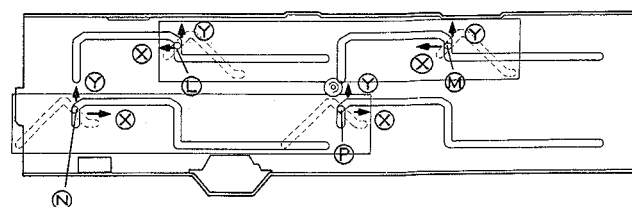

Fig. 10-8.
2. When rack U and rack L move in the directions of the arrows ② and ① respectively, the force dispersed in the ⑨ direction and the ⑩ direction shown in Fig. 10-8 acts on slide angle shafts ⑤, ⑥, ⑦, and ⑧.